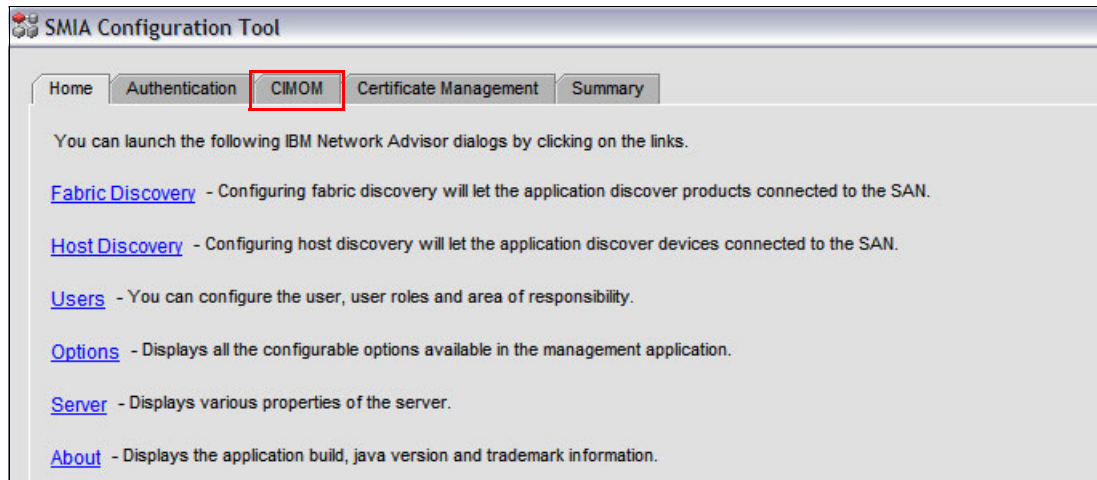

Figure 6-165 SMIA main window
10. Click the **CIMOM** tab from the main interface as shown in Figure 6-165.